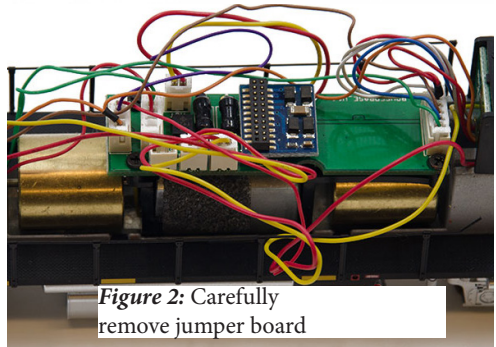

Figure 2: Carefully remove jumper board
2. Remove the jumper board from the locomotive's 21MTC pins. (**Figure 2**) The jumper board allows the loco to operate on a standard DC track or in analog mode on a DCC track. **If the loco also has a 8pin NMRA socket, any jumpers should also be removed.**
8. Figure 2 shows a typical US locomotive where the original analog jumper board has its 21-pin black socket body on the “top” as shown. The decoder should exactly match this arrangement chosen by the manufacturer. The 21 pins on the host locomotive main board must first enter *through the holes* on the green decoder board, and not directly into the black socket. There is a single index pin skipped to indicate alignment. This 21MTC arrangement is not symmetric, and must be followed exactly, otherwise decoder damage not covered by warranty may occur.